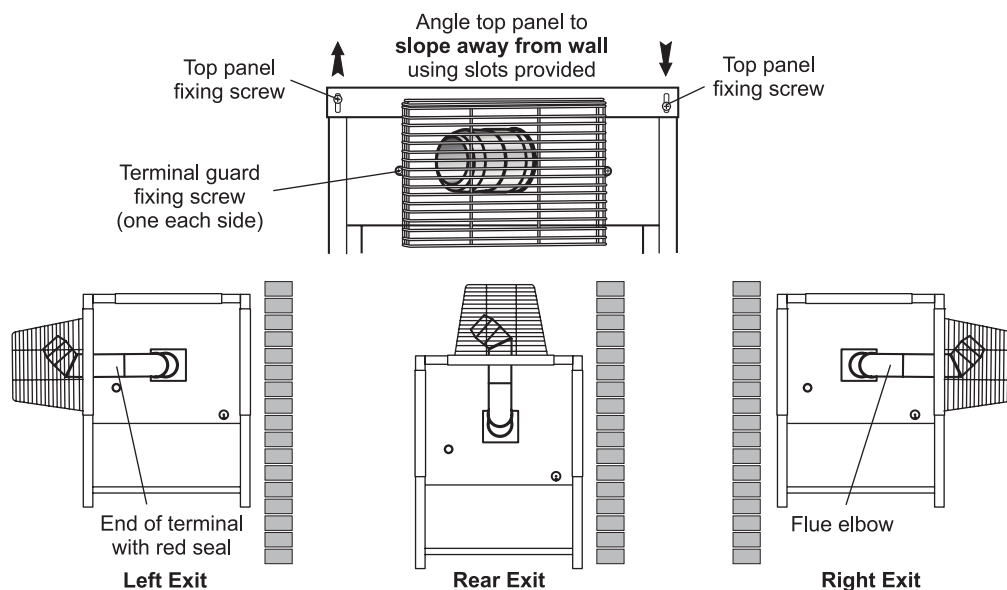

Fig. 14
- 9 The top panel of the casing has been designed so that it may be fitted to create a slight slope away from the side positioned against the wall. To tilt the top panel, loosen the four top panel casing screws, one at each corner and push down on the side furthest from the wall. Tighten the screws. See Fig. 14.